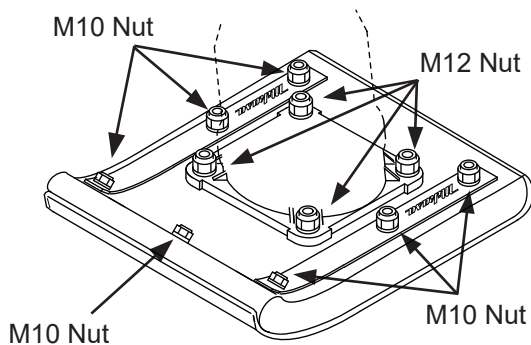

Fig.8
- Retighten the all nuts for assembling foot (Fig.8).